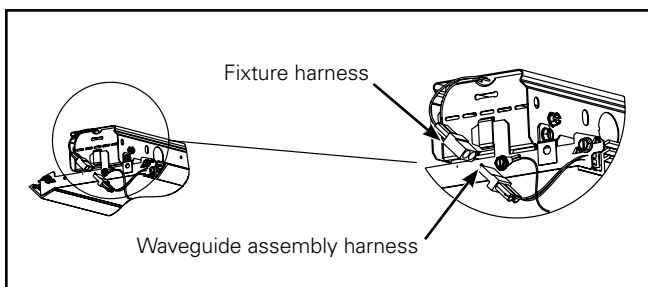

Figure 5.
- Connect LED wire harness on each end of the waveguide assembly. (Figure 5.)